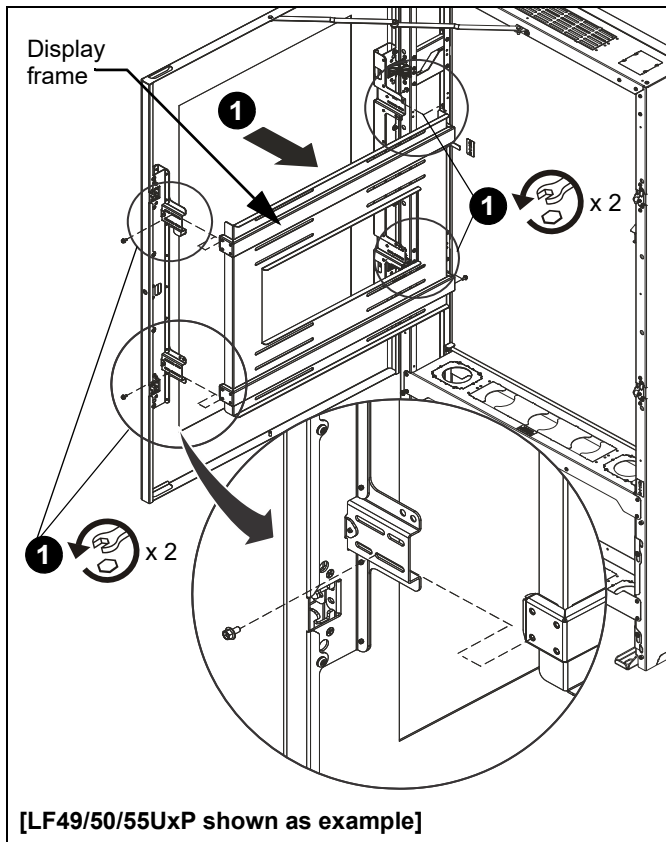

Figure 6
1. Use a 5/16" open end wrench to remove display frame from kiosk swing door by removing and **SAVING** four hex head screws. (See Figure 6)